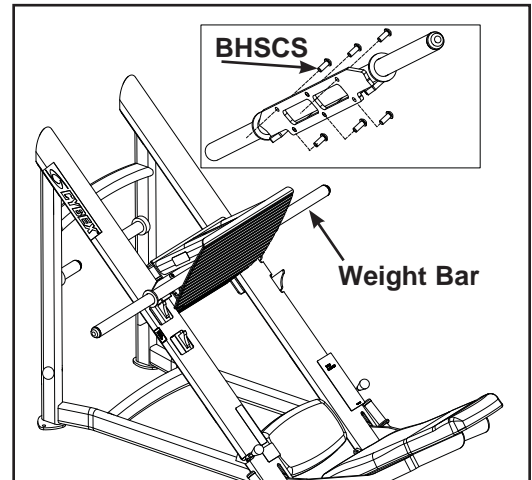
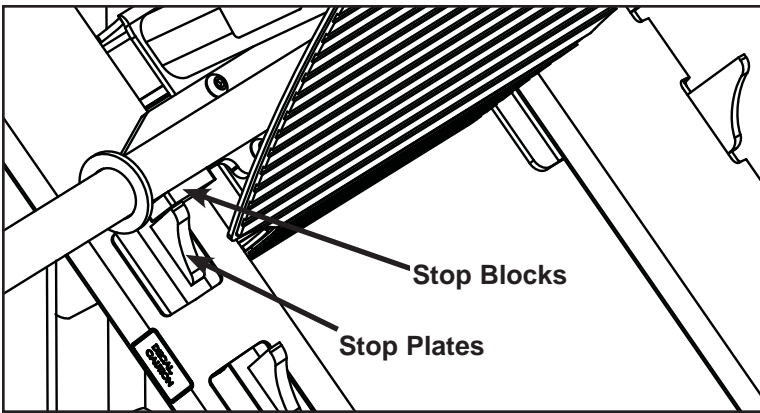

Figure 2
Figure 3
- A. Position bar on Leg Press and insert all six Button Head Socket Cap Screws (BHSCS) (B from kit) through mounting plate. See Figure 2.
- B. Place washer (C) and locknut (A) on BHSCS from step 4A and finger tighten.
- C. Position carriage so that the bar is resting on lowest position. Raise and lower carriage. Verify stop plates on bar are hitting stop blocks at same time at both stop positions. See Figure 3.